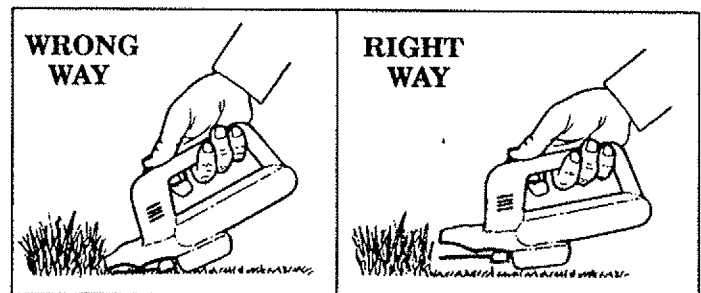

Figure 2
- **The tip of the line does the cutting.** Allow the line to cut at its own pace. You will achieve better results by not crowding the line into the cutting area. The right and wrong ways are shown in Figure 2.
- **Avoid letting the Line Holder continuously contact the ground during normal cutting.** Constant contact will cause line holder damage and premature line wear. The right and wrong ways are shown in Figure 2.
2. Hold the unit with the shield and trimmer line parallel to and above the ground. Figure 2.